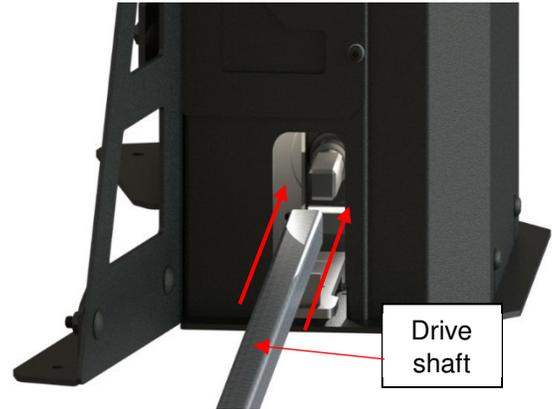

Figure 74
- 1) Insert the square drive-shaft over the square shaft on the bottom of the jack by the opening in the bottom of the post and push it as far as possible. (Figure 74)